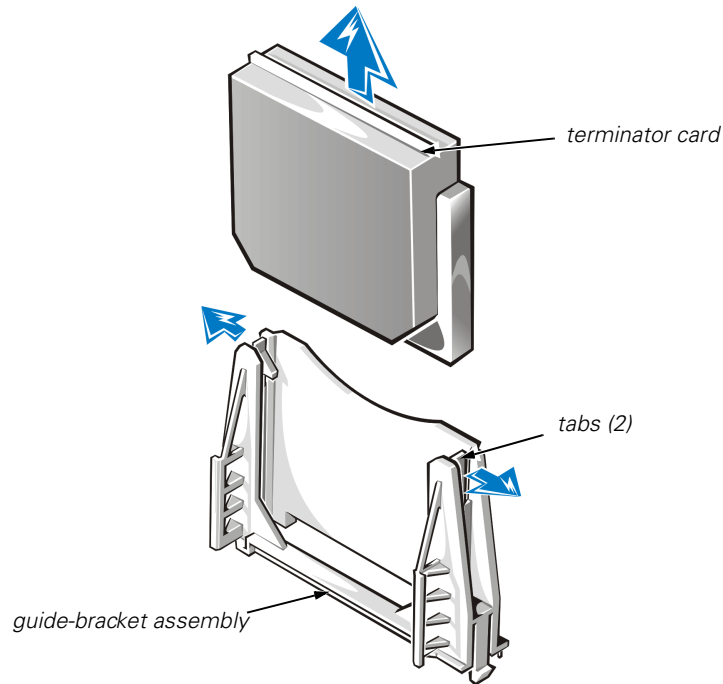

Figure 8-8. Removing a Terminator Card
- Slide the terminator card up and out of the guide bracket assembly (see Figure 8-8).